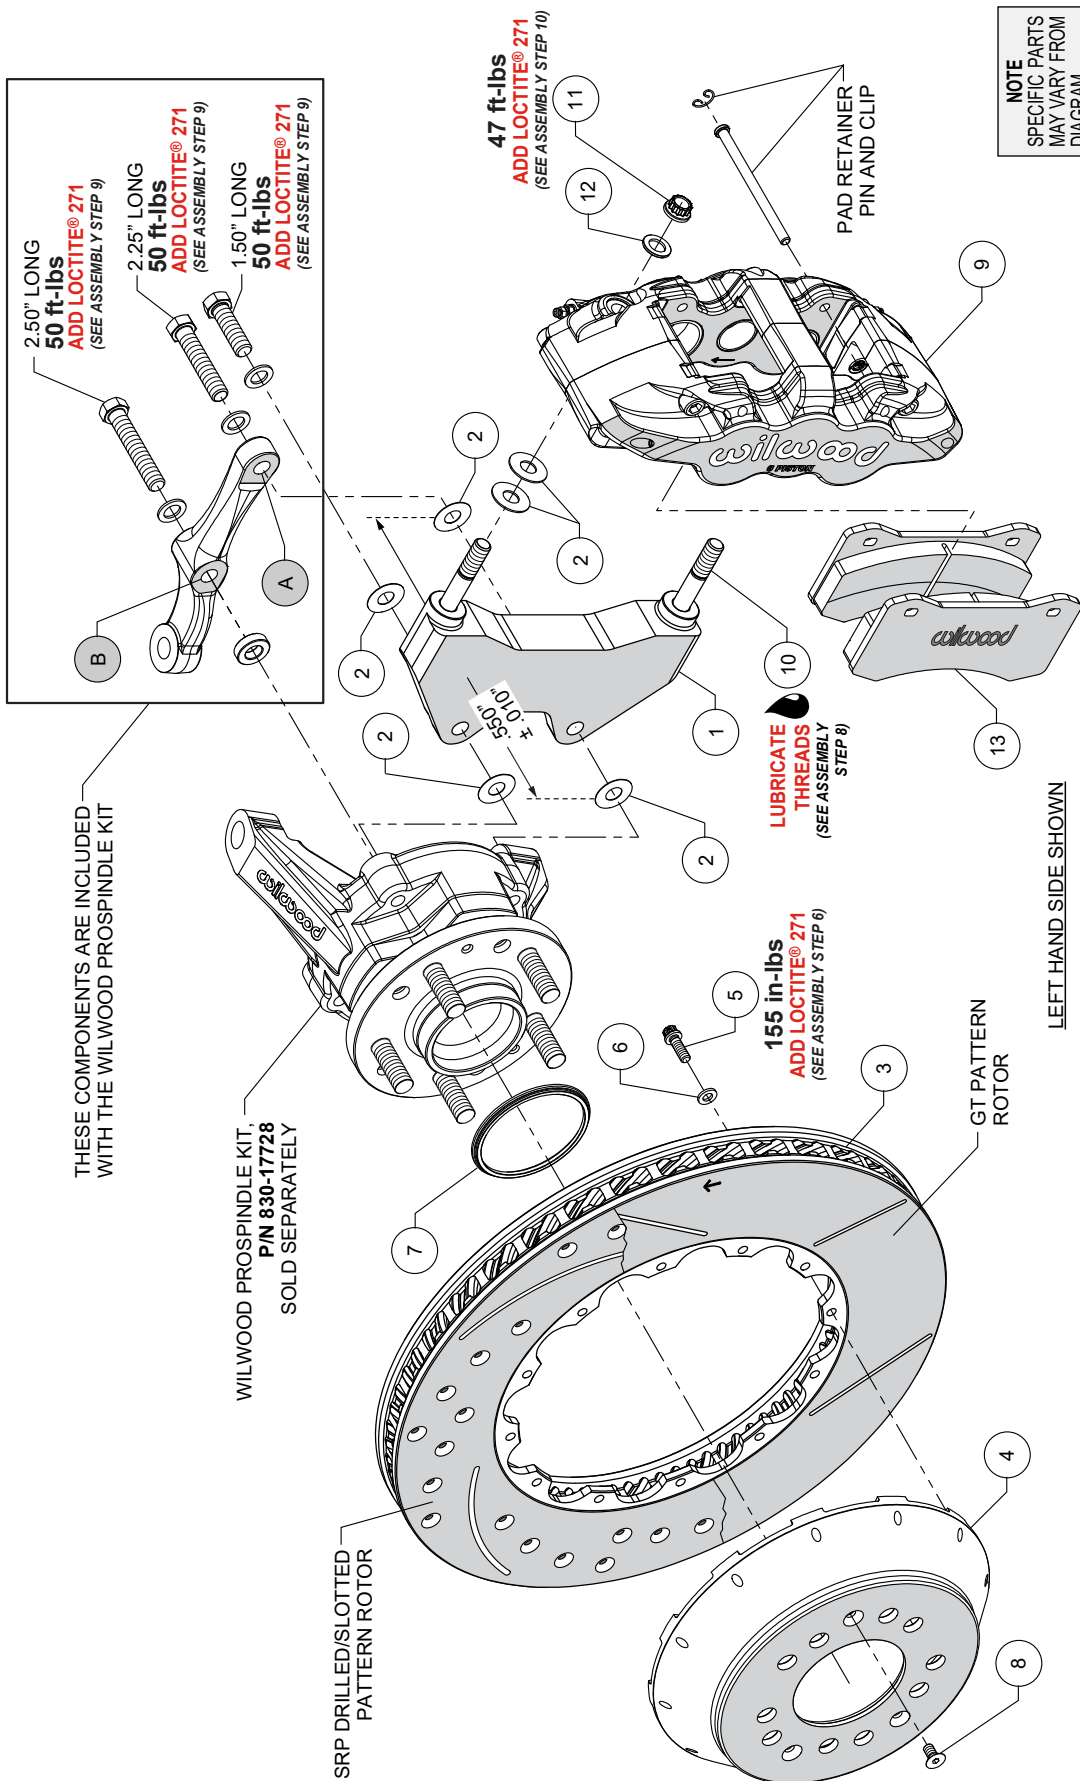
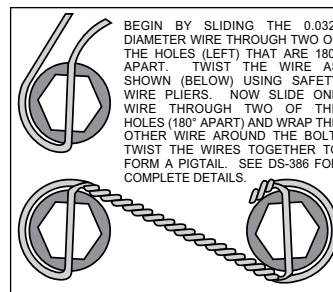

Figure 1. Typical Installation Configuration
Figure 3. Safety Wire Diagram
- NOTE:** This brake kit fits Wilwood's 2" drop ProSpindle (P/N 830-17728). Some hardware shown in Figure 1 is included with the ProSpindle kit (sold separately).
NOTE: Numbers in parenthesis refer to the parts list and Figure 1 on the preceding pages.
NOTE: Each Wilwood ProSpindle kit (sold separately) includes bolts, washers, and a spacer to mount the steering arm and caliper bracket. The various bolts are identified by length in the following instructions and in Figure 1.
STEP 1 The caliper bracket (1) should initially be installed with clean, dry threads on the mounting bolts. Orient the bracket as shown in Figure 1 and Photo 1.
STEP 2 Install the bracket (1) at top spindle hole using 1.50" long bolt and .063" thick washer (from ProSpindle kit), and one .030" thick shim (2) between the bracket and spindle, Figure 1 and Photo 2
STEP 3 Orient the steering arm, and identify the hole marked 'A', as shown in Figure 1 and Photo 2. Install at bottom spindle hole using 2.25" long bolt and .063" thick washer (from ProSpindle kit), one .030" thick shim (2) between the bracket and steering arm, and another .030" thick shim (2) between the bracket and spindle, Figure 1 and Photo 2. The bracket is located between the steering arm and spindle. **NOTE:** The bracket and shim washers must add up to a total thickness of .550" ± .010".
STEP 4 Finish attaching the steering arm through the hole marked 'B', as shown in Figure 1 and Photo 2. Install using 2.50" long bolt, .063" thick washer, and .250" thick spacer (all from ProSpindle kit), Figure 1 and Photo 2.
STEP 6 Orient the rotor (3) and the hat (4) as shown in Figure 1, and Photo 3. Attach rotor to hat using bolts (5) and washers (6). Apply red Loctite® 271 to the bolt threads and torque to value shown in Figure 1 using a criss-cross pattern. For an added measure of security, the bolts may be safety wired using standard 0.032 inch diameter stainless steel safety wire as shown in Figure 3. Refer to Wilwood's data sheet DS-386 (available at www.wilwood.com/Pdf/DataSheets/ds386.pdf) for complete safety wire installation instructions.
STEP 7 Install the rotor registration adapter (7) onto the register of the hub assembly with the smaller O.D. facing outward, Photo 4. Slide the rotor/hat assembly (3/4) onto the hub, taking care to align the small countersunk holes in the hat with the small threaded holes in the hub, Figure 1. **NOTE:** The hat must fit flush against the hub face or excessive rotor run out may result. Install rotor locator screws (8) to keep the rotor/hat assembly in place while continuing with the installation, Photo 5.
STEP 8 **NOTE:** This kit contains distinct right and left hand calipers that must be mounted in a specific direction, as described below. Lubricate the caliper mounting studs (10) with lightweight oil. Initially place two .030" thick shims (2) on each stud (10) between the caliper and the bracket, as shown in Figure 1 and Photo 6. Mount the caliper (9) onto the bracket (1) using lock nuts (11) and washers (12), Figure 1. Temporarily tighten the lock nuts. Ensure that the caliper is mounted so the largest pistons are at the rotor exit end of the caliper, in relation to the forward rotation of the rotor. View the rotor through the top opening of the caliper. The rotor should be centered in the caliper, Photo 7. If not, proceed as follows:
- Adjust by adding or subtracting shims (2) between the **bracket and the spindle**. Always use the same amount of shims on each of the two bolts **between bracket and spindle**.
- For the lower bracket mount bolt, if a shim (2) was added between the **bracket and spindle**, then a shim must be removed between the **steering arm and bracket**, such that the total thickness of bracket and shims remain equal to $.550 \pm .010$ ".
STEP 9 Once the caliper alignment is correct, remove the ProSpindle supplied bolts one at a time, apply red Loctite® 271 to the threads, and torque to value shown in Figure 1.
STEP 10 Remove the caliper (9), then remove the two pad retaining pins from the caliper by carefully popping out the pin retaining clips and sliding out the pins. Insert the brake pads (13) into the caliper from the bottom with the friction material facing the rotor, Figure 1 and Photo 8. Secure the brake pads in place with the pad retaining pins and clips. Reinstall the caliper onto the caliper mounting bracket and temporarily tighten the lock nuts.
Check that the top of the brake pad is flush with the outside diameter of the rotor, Photo 9. If not, adjust by adding or subtracting shims (2) between the caliper and the bracket. After the caliper pad height is set, torque the caliper lock nuts (11) to value shown in Figure 1.